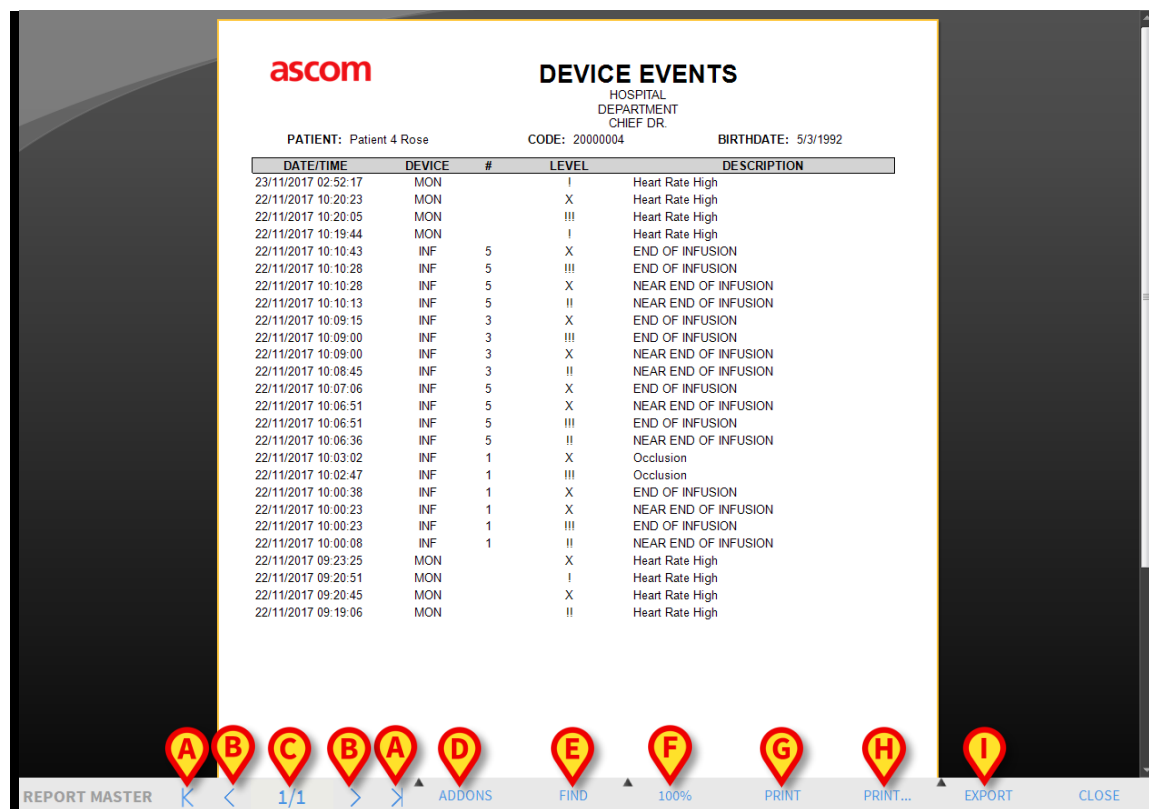
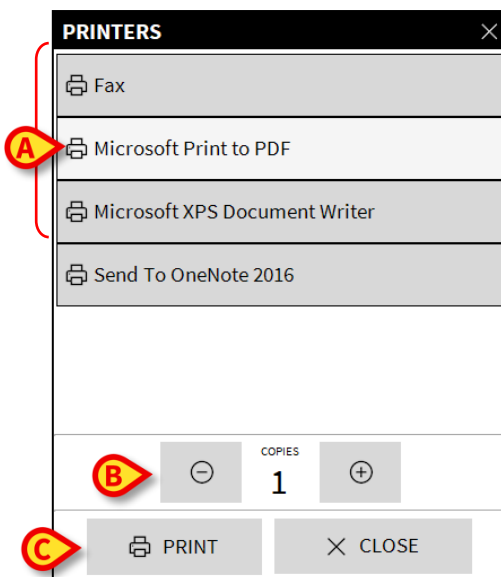

Fig 25
Fig 31
A print preview of the selected document will open (Fig 25).
Use the **Print** button (Fig 25 **G**) to print the report.
Use the **Print...** button (Fig 25 **H**) to display the print options window (Fig 31). See paragraph 5.10.1.4 for a description of this window and the related procedures.
Use the **Export** button (Fig 25 **I**) to export the document contents to different file extensions. See paragraph 5.10.1.5 for more instructions.
The **Addons** button (Fig 25 **D**) activates the possible additional print management options.
The **Find** button (Fig 25 **E**) makes it possible to search the print report currently displayed.
The **Zoom** button (on which, by default, the **100%** size is displayed - Fig 25 **F**) is a zoom, making it possible to change the display size and mode.
- Click the **Print...** button (Fig 25 **H**) to display the print options window (Fig 31)
- Click the appropriate printer on the menu to select the printer (Fig 31 **A**)
- Use the  (one less copy) and the  (one more copy) buttons to specify the number of copies (Fig 31 **B**)
- Click the **Print** button (Fig 31 **C**) to print the report
The **Export** button (Fig 25 **I**) makes it possible to export the displayed document contents to different file extensions.